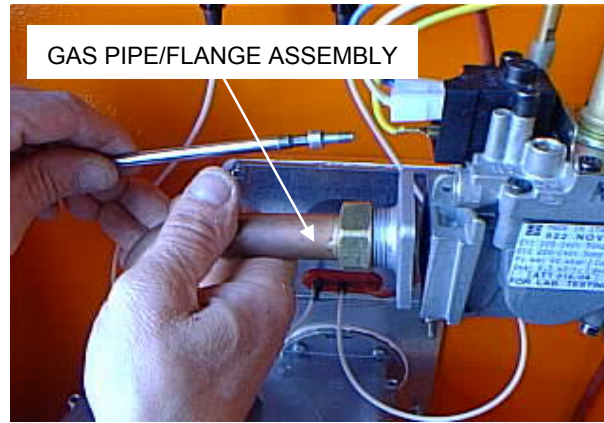

Figure 37 – Gas pipe/flange assembly.
3. Remove the gas pipe/flange assembly (see Figure 37).